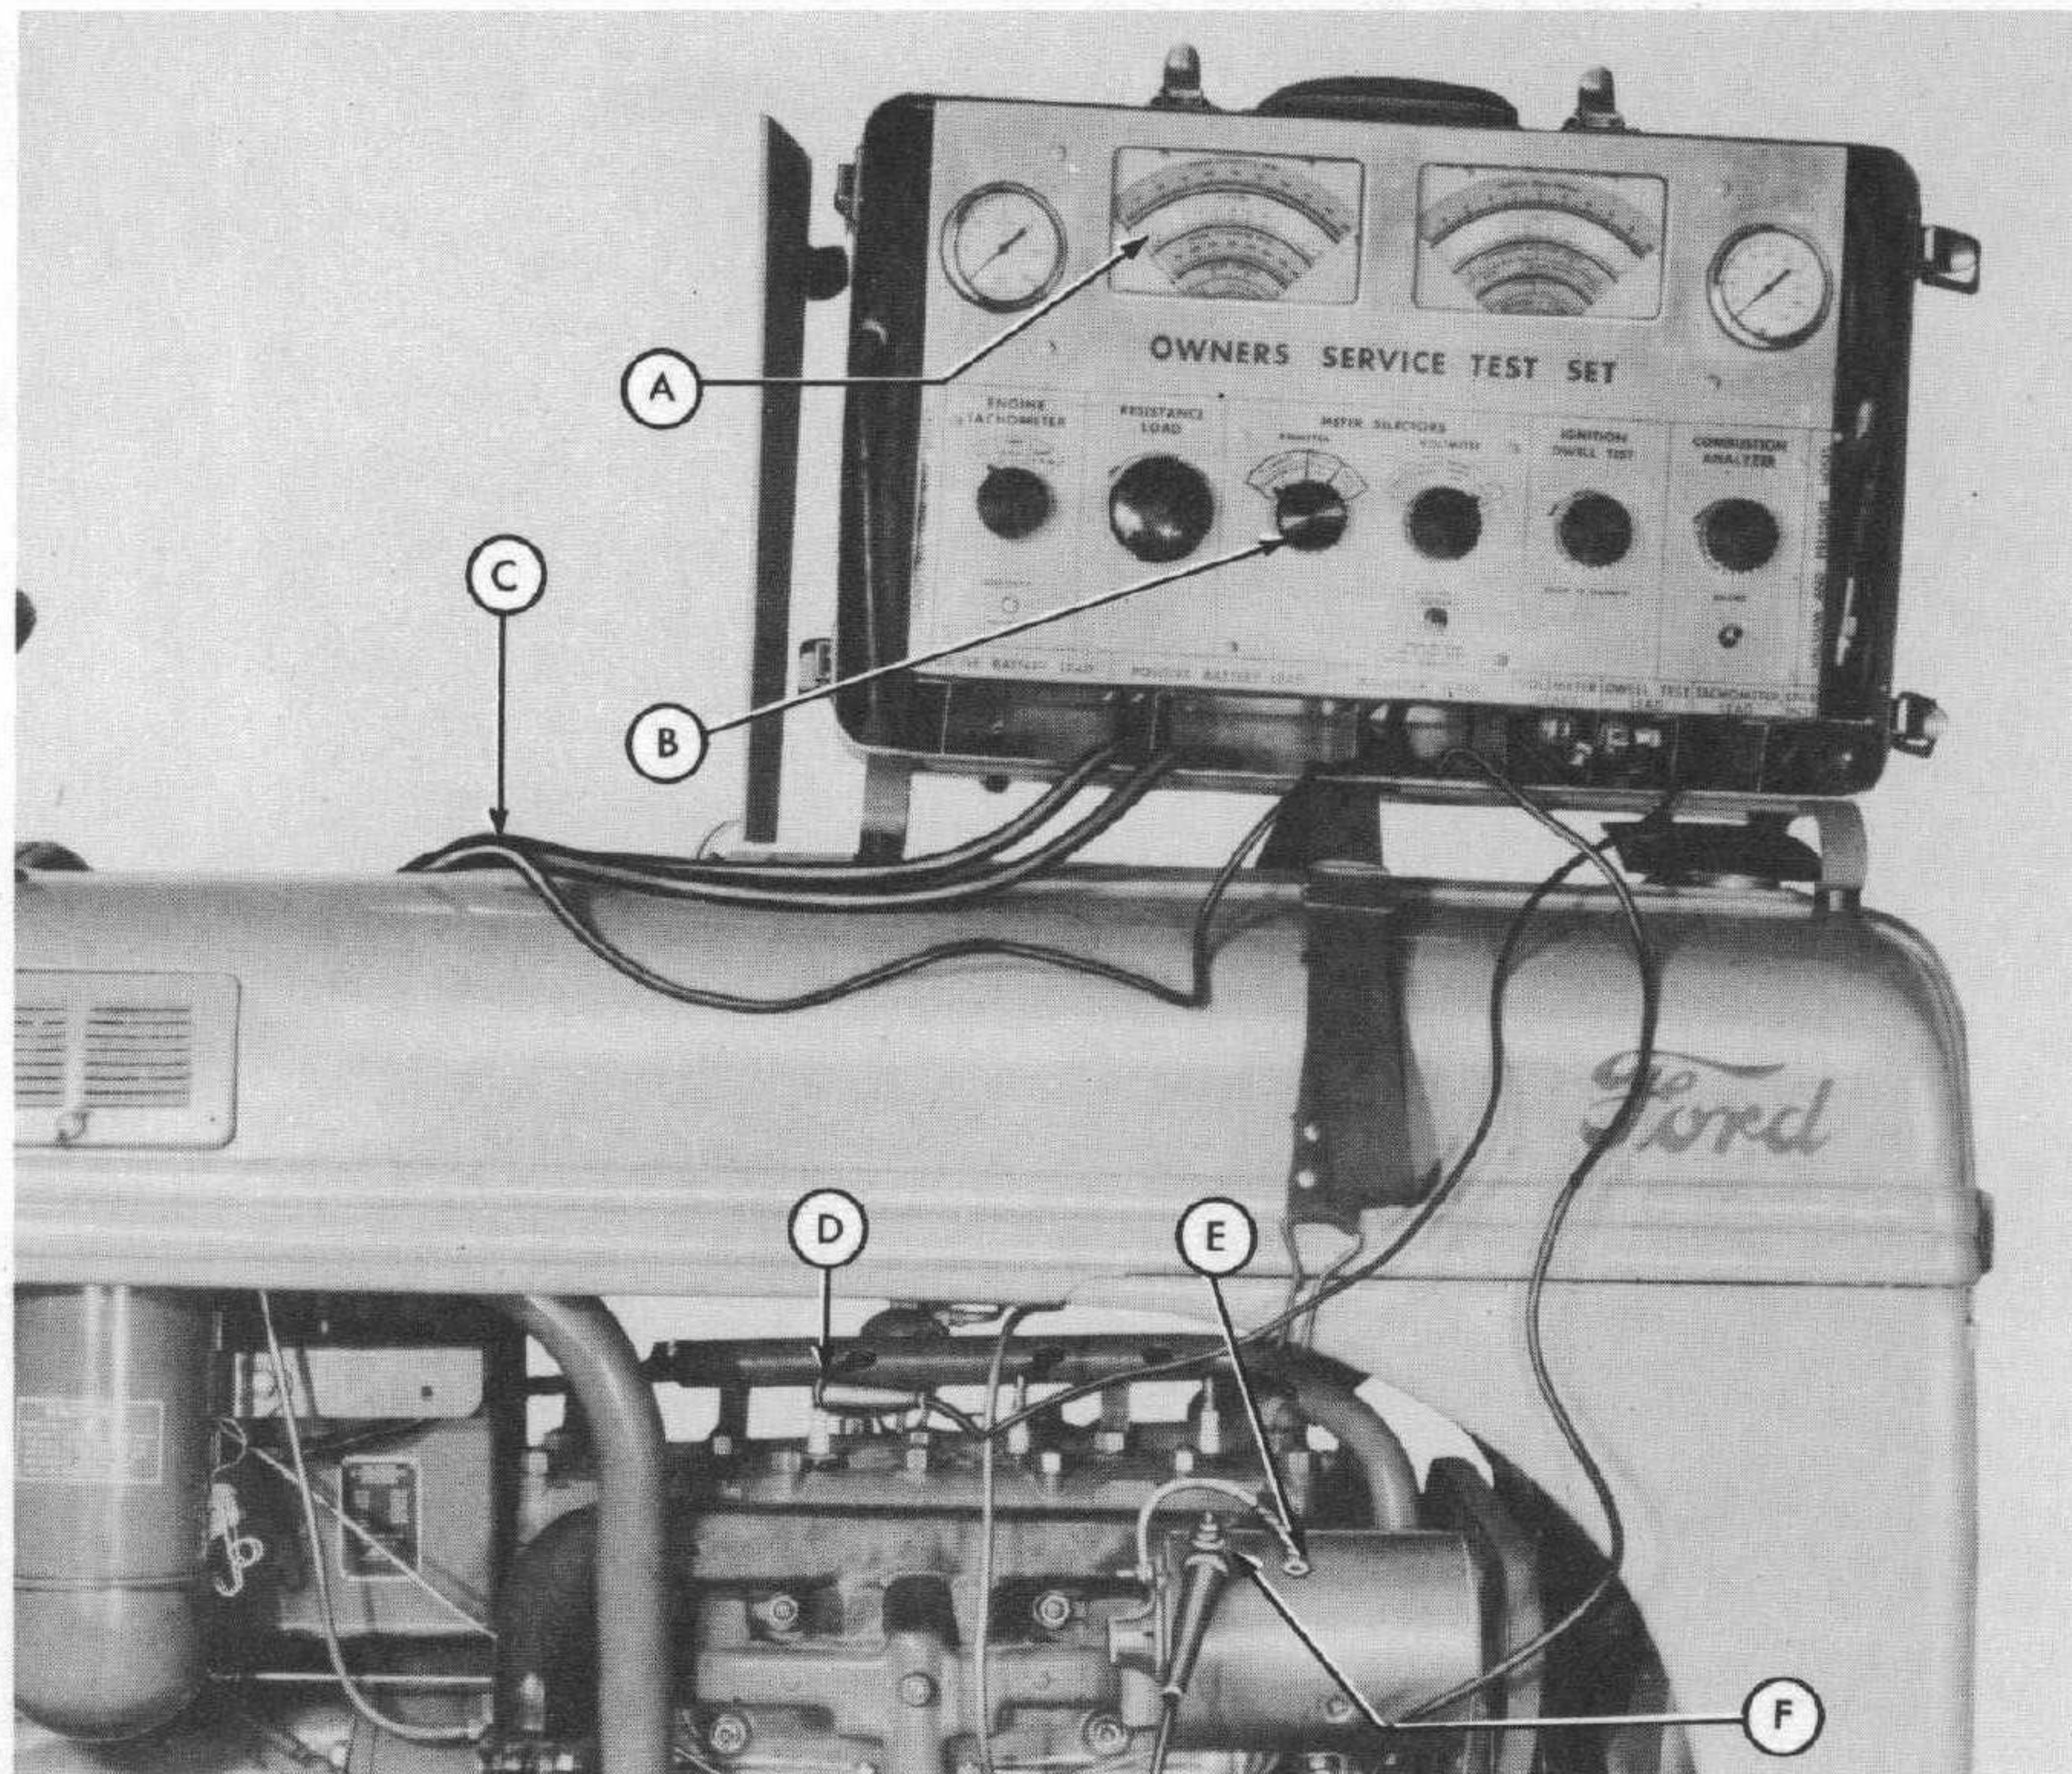

Fig. 8
NOTE: The tachometer lead may be left attached to any spark plug as shown at (D-Figure 8).
Step 1—Disconnect the field lead (E-Figure 8) from the generator.
Step 2—Connect the positive amperage lead (F-Figure 8) to the generator field terminal and the negative amperage lead (C-Figure 8) to the negative battery post.
Step 3—Turn the ammeter knob (B-Figure 8) to **NORMAL** and read the amperage on the 60 amp. scale (A-Figure 8). Convert the amperage reading to ohms by dividing the battery voltage by the amperes indicated on the 60 amp. scale.